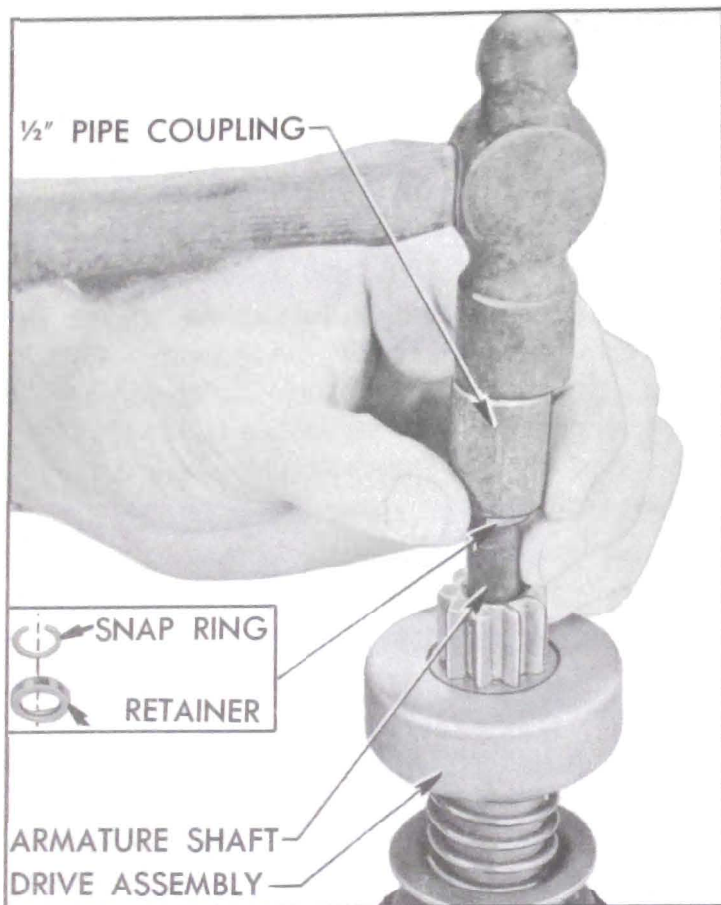

Figure 10-30—Removing Pinion Stop Retainer and Snap Ring
1. Remove screw from solenoid motor terminal and bend field leads slightly until clear of terminal. Then ground solenoid motor terminal with a heavy jumper wire. See figure 10-30.
5. To remove drive assembly from armature, place a metal cylinder of proper size ($\frac{1}{2}$ " pipe coupling will do) over end of shaft to bear against the pinion stop retainer. Tap retainer toward armature to uncover snap ring. See figure 10-30. Remove snap ring from groove in shaft, then slide retainer and pinion drive assembly from shaft. Remove assist spring.